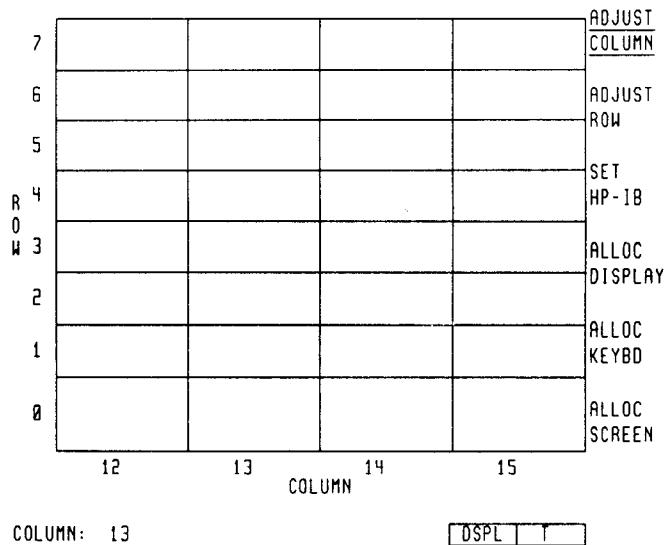

Figure 2-12. Allocating the Display to an Instrument
4. Use the display knob to place the cursor on an empty address, as in Figure 2-12. (On the display screen the cursor is the highlighted box.)